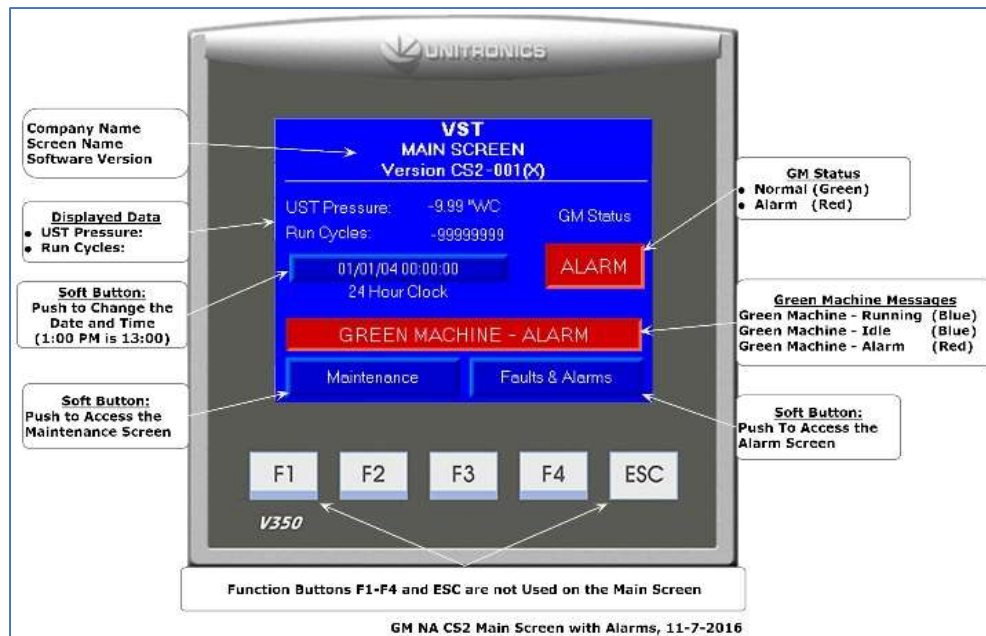

Figure 8-2: VST GREEN MACHINE Control Panel Main Screen with an Alarm Active
- When an Alarm is posted, the “NORMAL” message changes to “ALARM” and the Message box changes from Green to Red. **See Figure 8-2.**